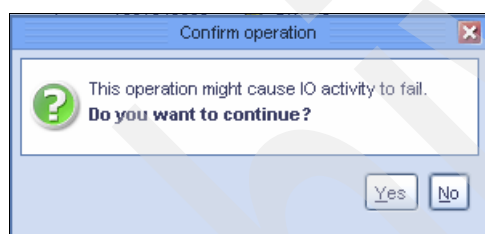

Figure 8-20 Confirm operation "might cause I/O activity to fail"
3. If Confirm operation panel appears, click Yes (see Figure 8-20).